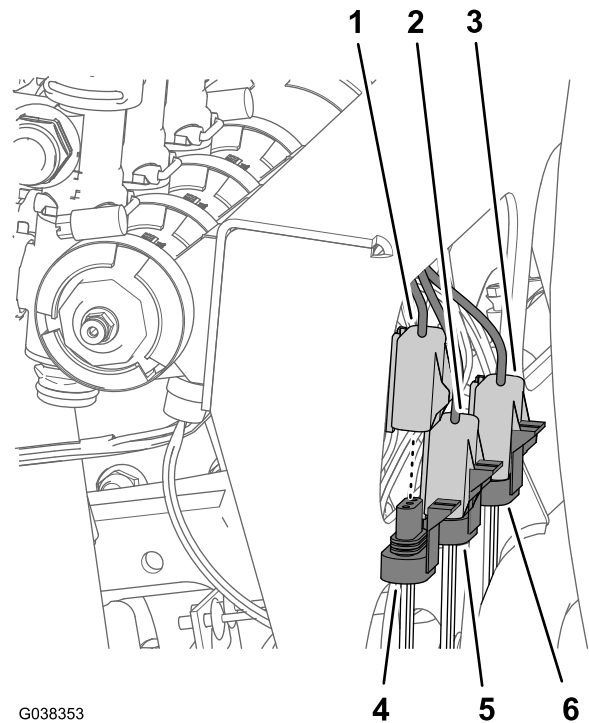

Figure 56
1. Connect the 3-pin valve harness labeled LEFT SPRAY VALVE into the 3-socket connector for the left spray valve (Figure 56).
2. Connect the 3-pin valve harness labeled CENTER SPRAY VALVE into the 3-socket connector for the center spray valve (Figure 56).
3. Connect the 3-pin valve harness labeled RIGHT SPRAY VALVE into the 3-socket connector for the right spray valve (Figure 56).